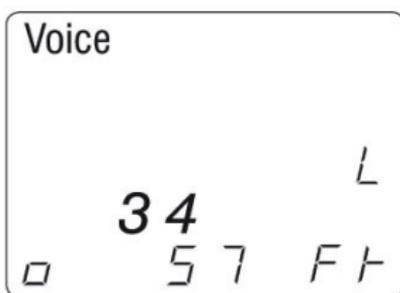

Figure 14. Length of Pin Paris 3 and 4
- Measure Pin Pairs:** Press the cable type button again to measure the length of the first pin pair. The number(s) for the pair being measured will display in the screen (see Figure 14). Subsequent presses of the cable type button will cycle through all the pairs and return to the length reading for the entire cable when you have advanced past the last pin pair. The following icons appear in the display screen: